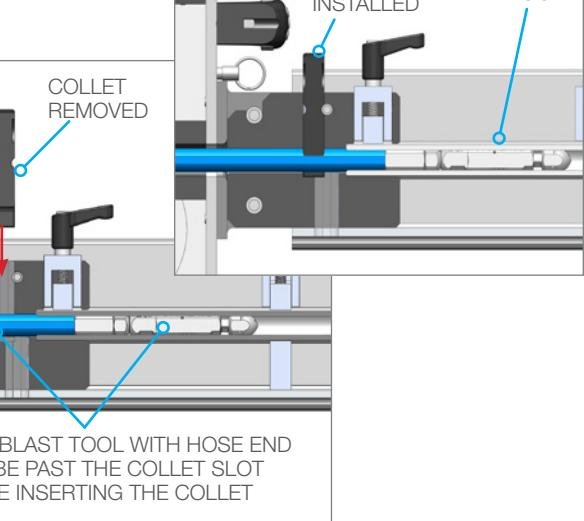

FIGURE 4 COLLET INSTALLED WATERBLAST TOOL
4. When the waterjet tools pass the Collet slot, install the Collet and quick release pin. (**Figure 4**)